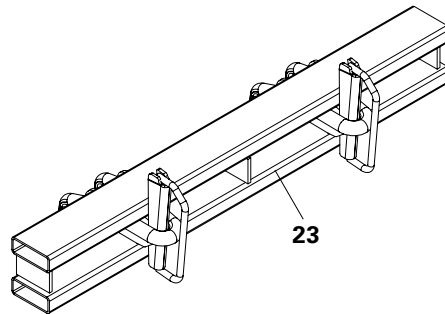

Fig. A4.05
The Compensation Waler TAR 85 (23) is used as a bracing, aligning and load-transferring panel connection. (Fig. A4.05)